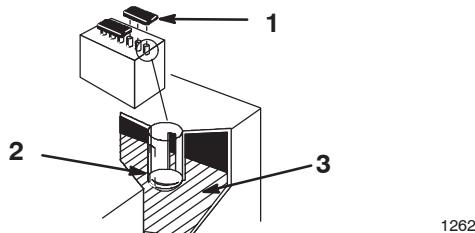

Figure 49
1. Open covers to see into the cells. The electrolyte must be up to the lower part of the tube (Fig. 49).
Important Do not allow the electrolyte to get below the plates. (Fig. 49).
2. Lift off the filler caps (Fig. 49).
3. Slowly pour distilled water into each battery cell until the level is up to the lower part of the tube (Fig. 49).